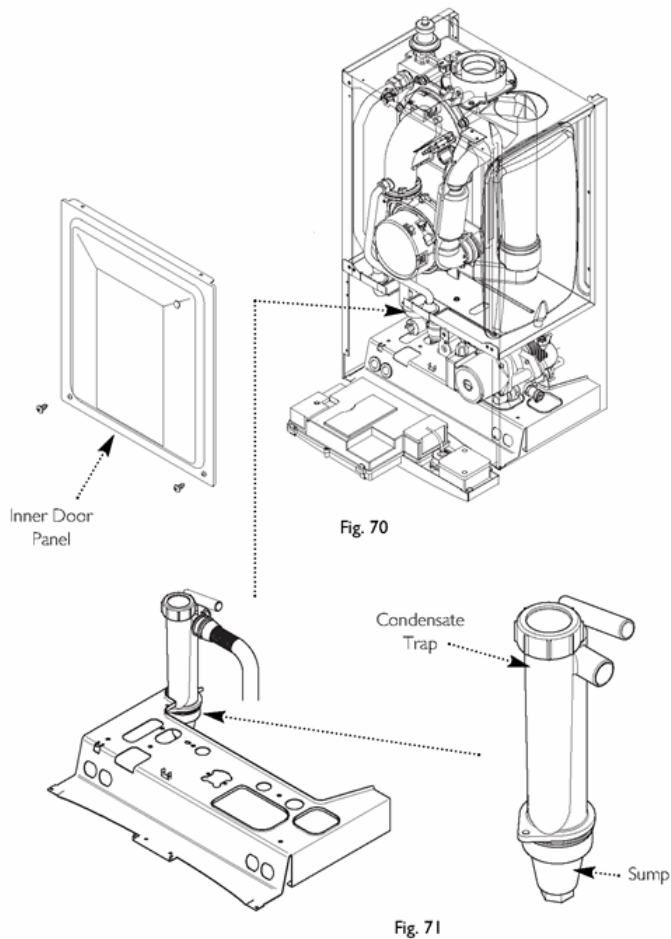

Fig. 70 & Fig. 71
4. Remove the screws securing the inner door panel. Lift the panel slightly to disengage it from the studs on top of the case (Fig. 70).